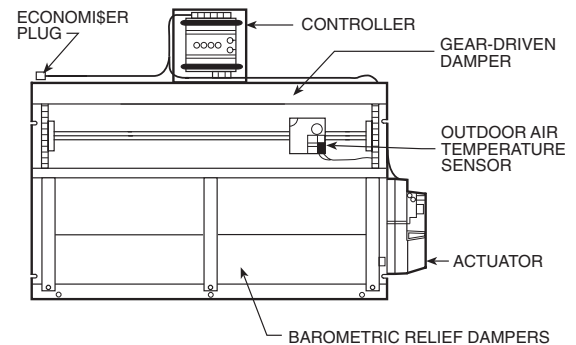
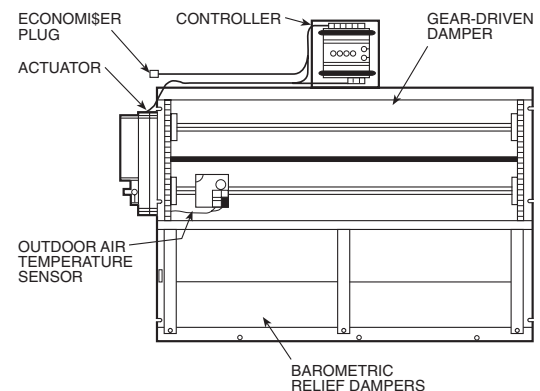

Fig. 1 — 3 to 6 Ton EconoMi\$er Component Locations
Fig. 2 — 7¹/₂ to 12¹/₂ Ton EconoMi\$er Component Locations
See Fig. 1 and 2 for EconoMi\$er component locations. See Table 1 for Package Usage and Contents.
- Controller should be mounted in vertical position as shown in Fig. 1 and Fig. 2.